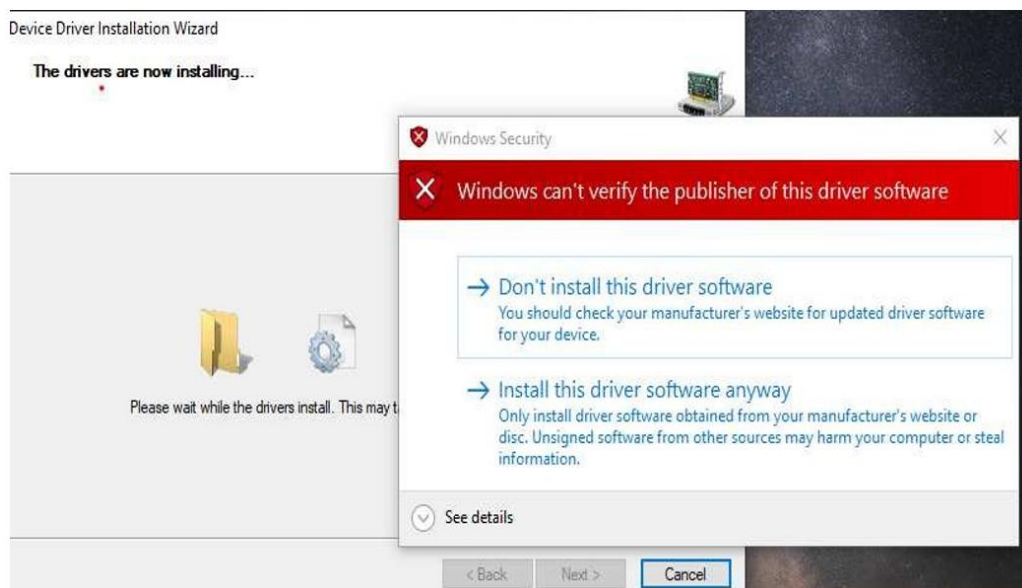

Figure 3.29. Windows Security in Driver Installation
8. If you receive a Windows Security prompt, select **Install this driver software anyway** as shown in Figure 3.29.